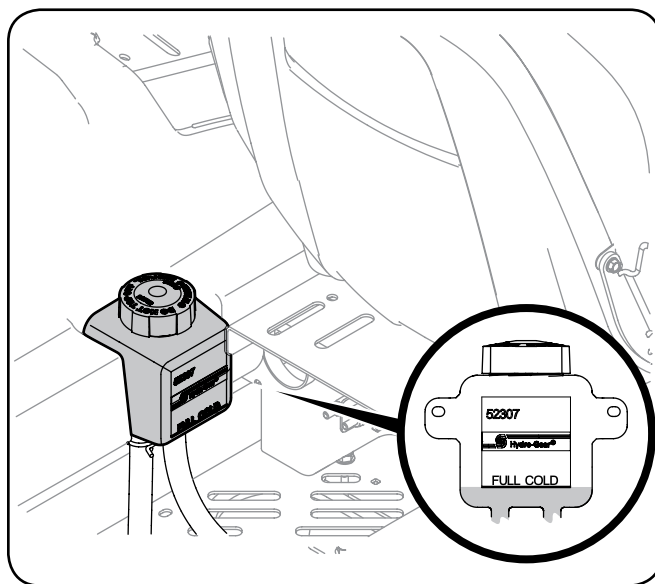

Figure 18
1. Pivot the operator's seat forward and clean the reservoir cap and the area around the cap to prevent debris from contaminating the transmission oil. See Figure 18.
2. Turn the reservoir cap counterclockwise to re-move, then check the oil level in the reservoir. Oil should be visible at the bottom of the cup, but the oil level must **NOT** be above the "FULL COLD" line. See Figure 18. **DO NOT FILL THE RESERVOIR.**